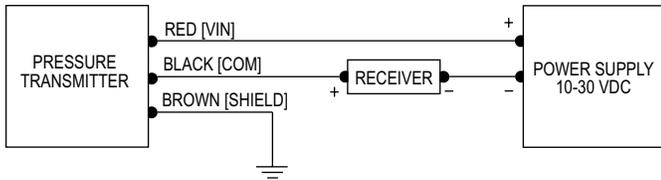

Figure 1: Current output connection
An external power supply delivering 10-30 VDC with minimum current capability of 40 mA DC (per transmitter) is required to power the control loop. See Figure 1 for connection of the power supply, transmitter, and receiver. The range of appropriate receiver load resistance (RL) for the DC power supply voltage available is expressed by the formula:
Electrical connections to the Series 626/628-CB pressure transmitters are made to the terminal block located inside the housing. Remove the screws and lift off the cover. Lift off the terminal block for wiring. Wire as show in Figure 1. Use Figure 1 for current output connection. If ordering pre-wired cable, black wire is negative [-] and red wire is positive [+].